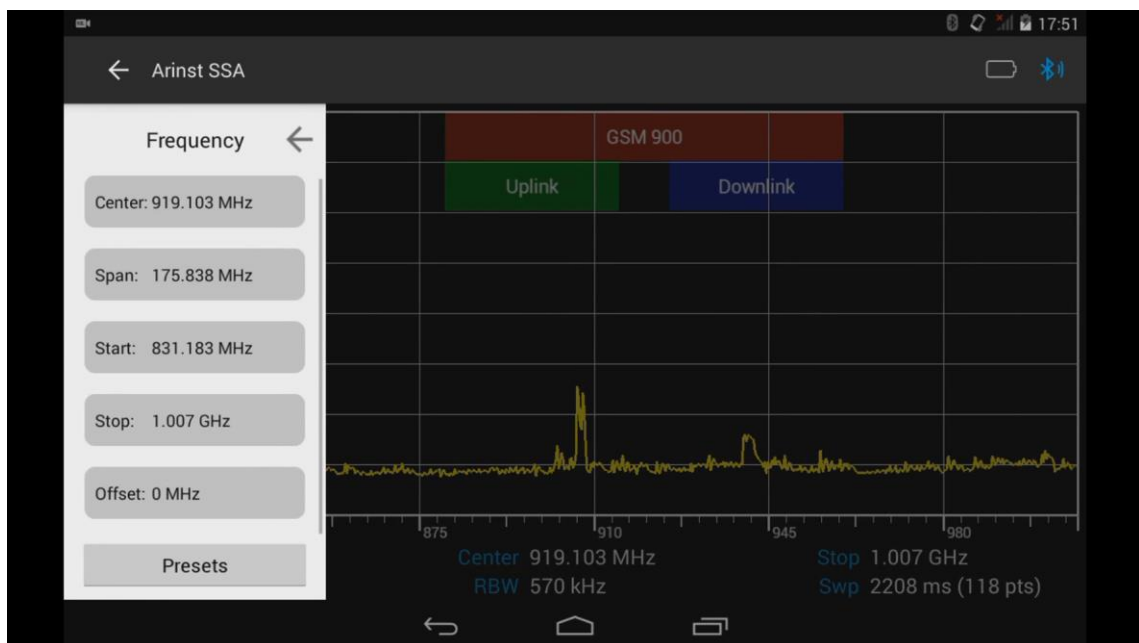

Figure 30 – Operating frequency range control menu
8.5.1. From the main menu of the control program enter the control menu of the working frequency range by clicking the **Frequency** menu (Figure 30).